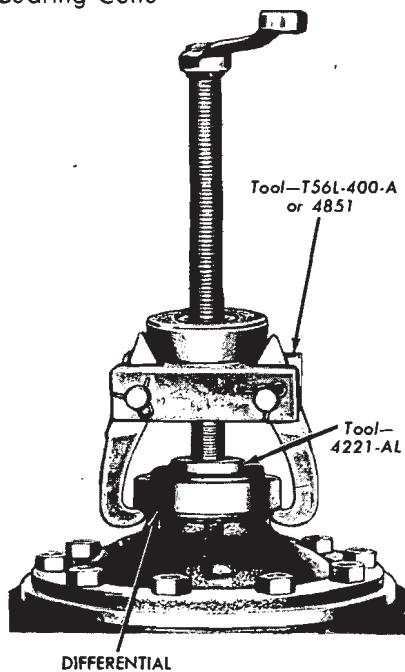

FIG. 21—Differential Bearing Removal
- If the differential bearings are to be removed, use the tools shown in Fig. 21.